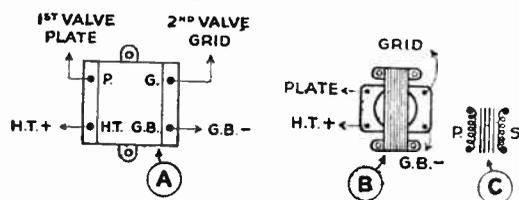

Fig. 1—Directly coupled transformers
Transformers are often used to couple one valve to the next and the most popular transformer for this purpose is shown at (A) in Fig. 1. The shape and
Small or old-fashioned transformers may merely have 'P' by one pair of tags or terminals and 'S' by the second pair. This stands for Primary and Secondary. The leads should be connected as shown at (B) in Fig. 1, secondary connections being reversed over if necessary, as explained.
ings, the primary and secondary, as shown at (C) in Fig. 1. No connection exists between the two windings. (The lines between them indicate the iron core.) If a transformer with no markings, or with coloured leads, is to hand, tests for continuity can be made between the various ends. This will show which pairs of leads or tags are connected internally by the windings; one pair will be the primary, and the second the secondary, connections. If a meter is available, test the resistance of the windings. The lowest (about 2,000 to 5,000 ohms) will be the primary, and the other (about 5,000 ohms upwards) the secondary.
as follows: end nearest centre of bobbin is 'P' (A) in Fig. 1); next lead, slightly outwards, is 'H.T.'; third, slightly farther from core centre, is 'G.B.', and the outermost, near the edge of the bobbin, is 'G'.
A transformer of the type shown in Fig. 1 can be used. Transformers especially intended for feeding in this way are usually marked differently, 'C' being used for the condenser point, and 'E' for the earth, or H.T. negative, connection.